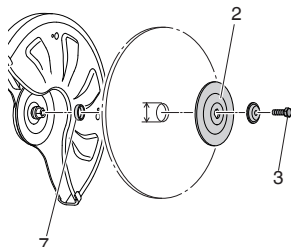

Fig. 9
- When using a wheel with an arbor hole of 25.4mm, securely attach the adapter collar (7) to the spindle. (Fig. 9)